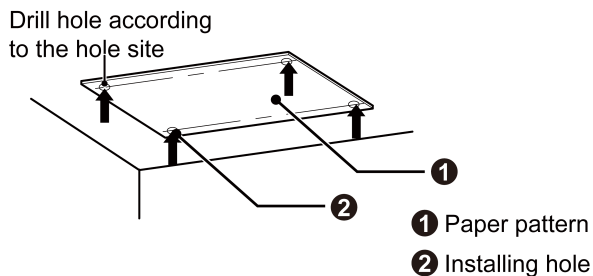
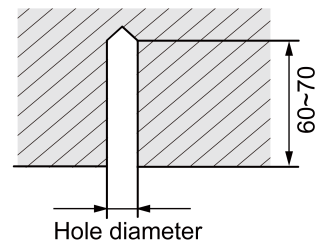

Fig.4.1.2
Fig.4.1.3
- 1) Stick the paper pattern on the installation position; drill 4 holes according to the hole site on the cardboard as shown in Fig.4.1.2; diameter of drilling hole is according to the diameter of expansion bolt and the depth is 60-70mm, as shown in Fig.4.1.3.